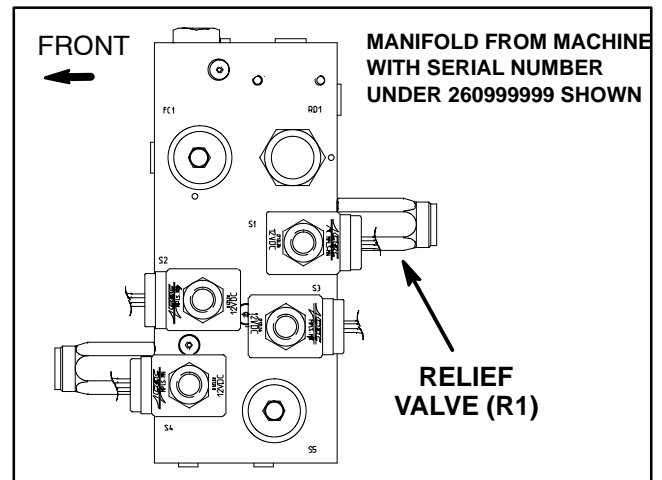

Figure 18
1. Make sure hydraulic oil is at normal operating temperature by operating the machine for approximately ten (10) minutes.
B. If specification is **not** met, shut off engine and adjust relief valve (R1) (Fig. 18) (see Adjust Manifold Relief Valves in the Adjustments section of this Chapter). After adjustment, retest relief valve (R1) pressure.